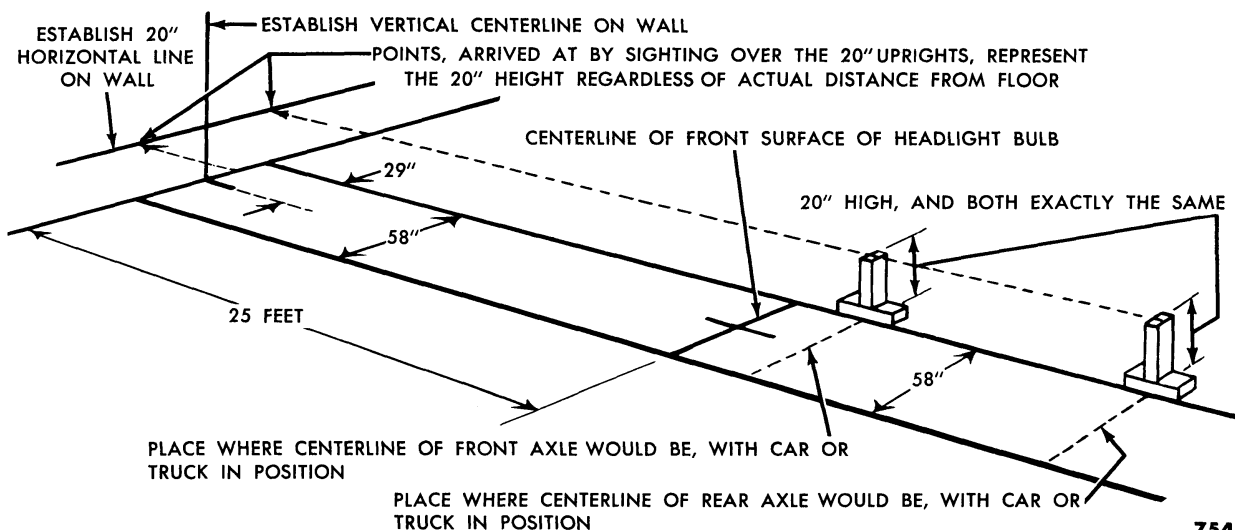

Fig. 3—Floor and Wall Layout
(1) **HEADLIGHT ALIGNMENT.** To align the headlights by means of a wall screen, select a level portion of the shop floor. Lay out the floor and wall as shown in fig. 3.
select a level portion of the shop floor. Lay out the floor and wall as shown in fig. 3.